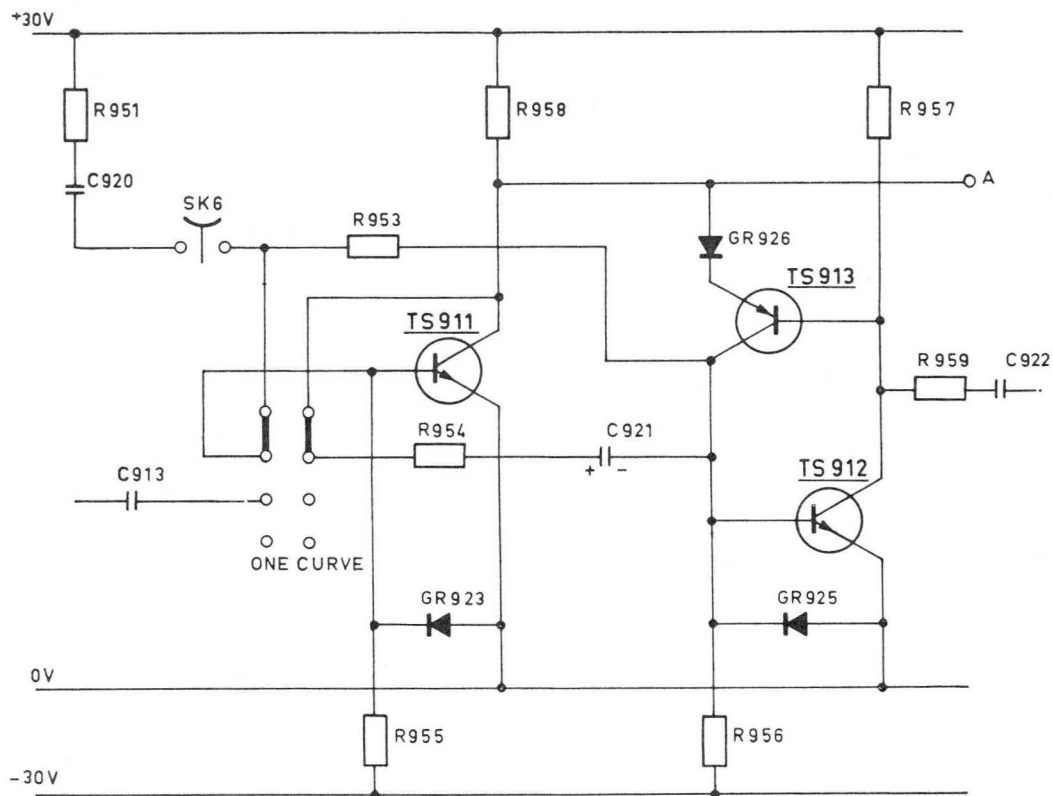

Fig. 55c. Switch position ONE CURVE
c. In switch position "ONE CURVE" (Fig. 55c) switching-over of the ring counter is effected manually by means of button SK6. The input pulses are disconnected, so that triggering by the pulse generator is not possible.